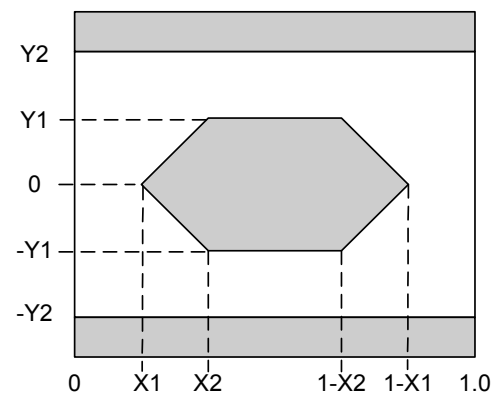

Figure 6.1.3. Receiver Output Eye Mask
- 5: Eye Mask is defined in Figure 6.1.3